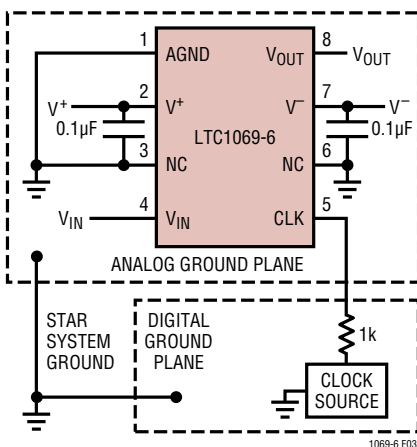

Figure 3. Connections for Dual Supply Operation
**V+, V- (Pins 2, 7):** Power Supply Pins. The V+ (Pin 2) and the V- (Pin 7, if used) should be bypassed with a 0.1µF capacitor to an adequate analog ground. The filter's power supplies should be isolated from other digital or high voltage analog supplies. A low noise linear supply is recommended. Switching power supplies will lower the signal-to-noise ratio of the filter. Unlike previous monolithic filters, the power supplies can be applied in any order, that is, the positive supply can be applied before the negative supply and vice versa. Figure 3 shows the connection for dual supply operation.